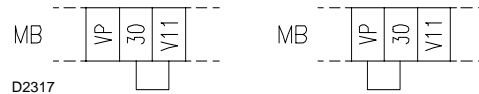

Fig. 29
- Move the jumper from terminals "30-V11" to terminals "30-VP", as given in Fig. 29, this way the main valve will not be energized.